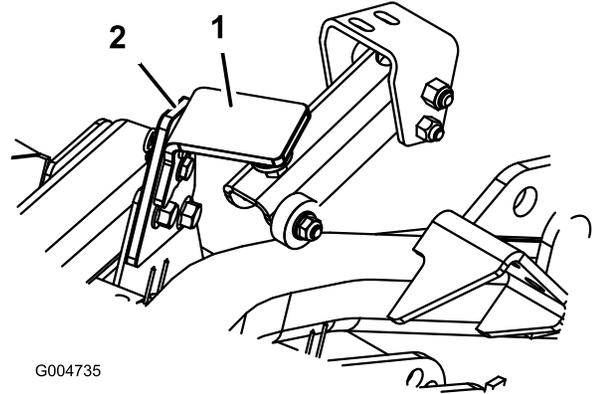

Figure 84
2. Remove the hairpin cotter and clevis pin securing the deck transport latch to the latch plate (Figure 84). Pivot latch toward rear of deck.